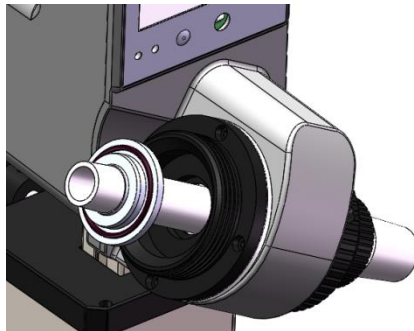
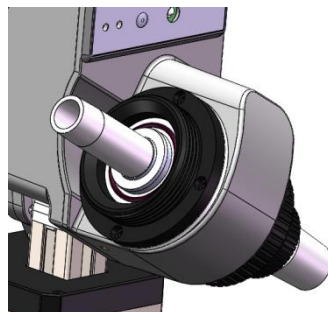

Fig. 4
Fig. 5
- Mount the seal ring (Fig. 4 and Fig. 5)